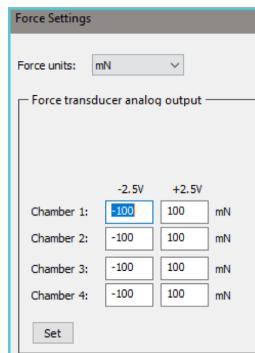

Figure 46: Force recording output for the analog Force output through the BNC plugs
- Force transducer analog output:** The transducer analog output through the BNC cables can be set at -2.5volt which equal to e.g. -100mN and +2.5volt which is equal to e.g. to 100mN as shown in figure 46. If the 100mN is changed to -50mN and +50mN, respectively the resolution will be 2x better. By changing the settings in this menu the resolution of the analog output can be increase or lowered.